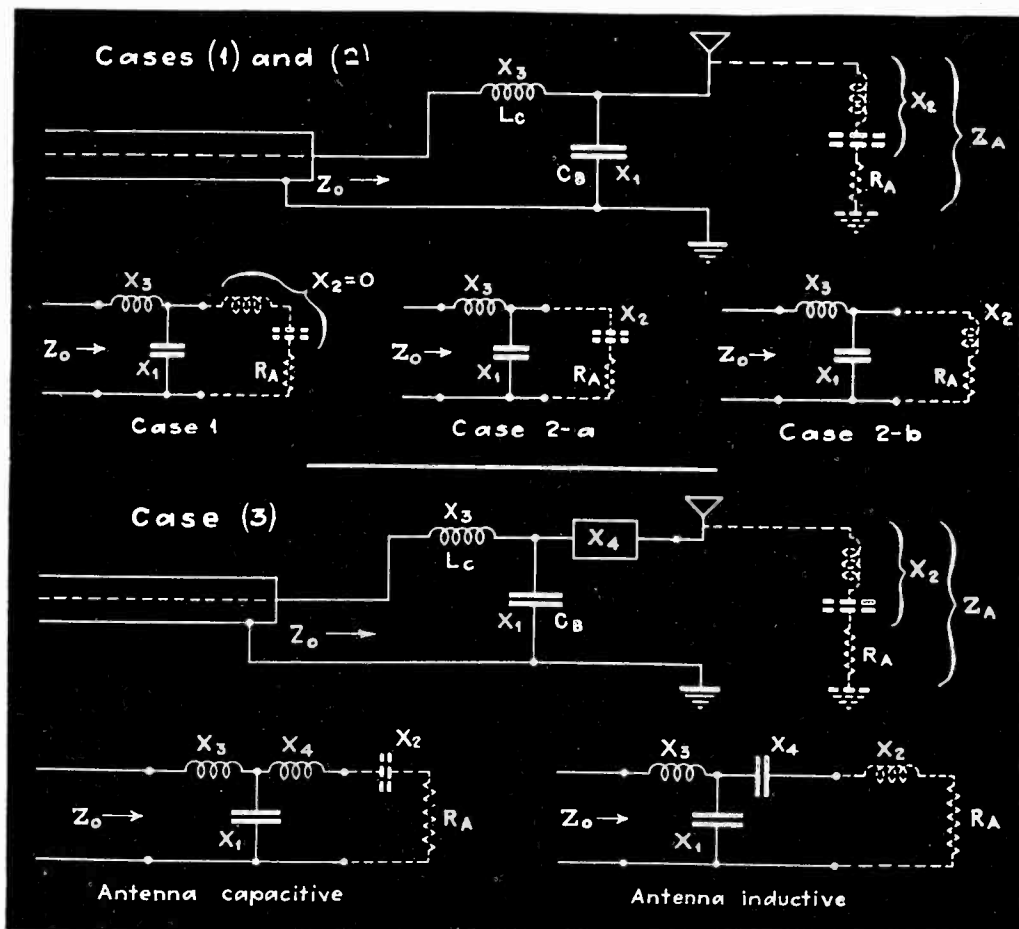

Fig. 1. Connection diagrams and equivalent circuits for terminating concentric lines when antenna is reactive or non-reactive
Refer to Fig. 1. The concentric line, characteristic impedance Z_0 , is terminated by a network consisting of C_B , L_C , and the antenna impedance Z_A . For case (1) the reactance of the antenna impedance is zero, and $Z_0 < Z_A = R_A$. Then the complex impedance Z_L presented to the end of the transmission line is:
where R_A , X_1 and X_3 are as given in Fig. 1. For proper termination Z_0
Reference to Fig. 1 for case (2-b) shows that it is the same as Case (1) except that $Z_A = R_A + jX_2$. By a similar process to that used for Case (2-a) we obtain formulas for X_1 and X_3 as follows:
Refer again to Fig. 1. It will be noted that the equivalent diagram for Case (2-a) is the same as case (1), except that the antenna impedance is now $Z_A = R_A - jX_2$. In this case the complex impedance Z_L presented to the concentric line is:
When the transmission line impedance "looks into" a complex antenna impedance, it is possible to simplify the adjustment of the circuit greatly by adding a reactance X_1 , as shown in Fig. 1 for Case (3). This reactance X_1 may be either inductive or capacitive, as shown. If the sum of X_1 and X_2 is inductive, then X_1 is made capacitive and vice versa. The value of X_1 is such that the algebraic sum of X_1 , X_2 and X_3 is equal to zero. Since X_1 is in series with the antenna impedance, it adds directly with the reactive part of the antenna impedance. The effect of the presence of X_1 can then be taken into account by applying the formulas of case (2-a) or (2-b). It is found by so doing that the values for both X_1 and X_3 are expressed by a very simple equation:
4. With the values of antenna resistance and reactance known, values of capacitance C_B and inductance L_C may be calculated for Case (2-a) or (2-b) as the case may be, and connected into the circuits as shown in Fig. 1.
1. With values of the line characteristic impedance, antenna resistance and reactance obtained by measurement, the value of C_b is calculated from formula (11) which gives the reactance X_1 necessary.
3. A sufficient value of inductance L_c having a value X_3 equal to X_1 is then connected into the circuit as shown in Fig. 1.